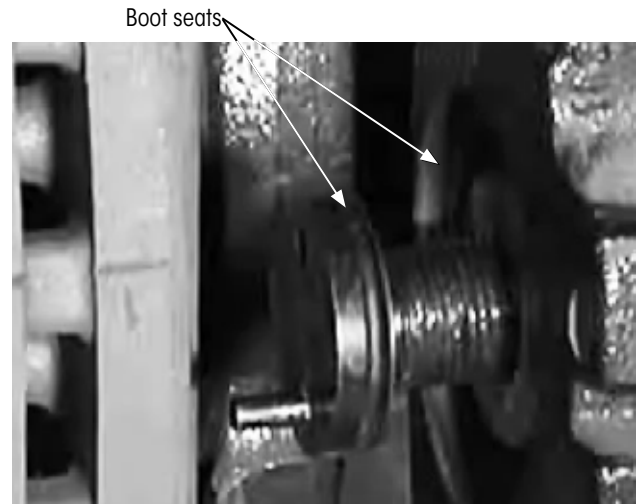
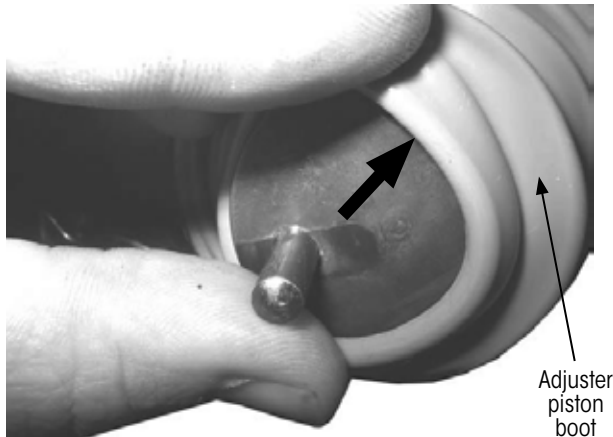

Figure 75: Clean adjuster piston boot seats
Figure 77: Seating adjuster piston boot edge
NOTICE: Do not use any sharp edged tools or metal brushes for cleaning. Ensure no dirt or moisture enters the brake when cleaning. The boot seats must be clean and free from grease (Figure 75).
- Clean** the adjuster piston boot seats (Figure 75).
- Grease** the thread of the adjuster piston (Figure 75).
- Manually turn** the adjuster piston (Figure 75) clockwise back into the brake caliper again. The adjuster piston pin must be in the same position as it was before it was screwed out, refer to Step 7.
3. **Lightly grease** the inner exposed edge of the adjuster piston boot (Figure 77).
4. **Insert** the edge of the adjuster piston boot into the adjuster piston seat (Figure 75 and Figure 77).